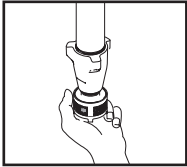

Fig. 12
5. Check inlet strainer for clogs and debris. (Fig. 12)